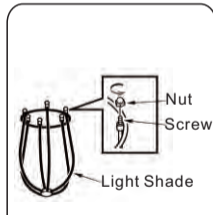

Fig.21
Step 2. Remove the 6 nuts from the light shade assembly. (fig.21)